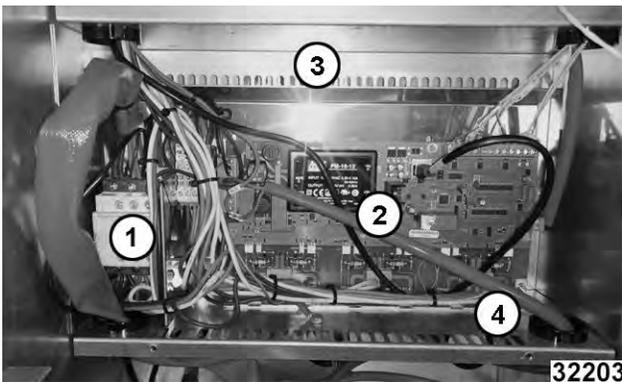

Fig. 12
- 2. Remove retention screw (3, Fig. 12) to disconnect enclosure from support brackets.
- 3. Pull enclosure forward to disconnect or test contactor (1, Fig. 12) and or relay board (2, Fig. 12).
- 4. Disconnect heat sink (4, Fig. 12) attached to radiator bar on outside of enclosure, by removing three screws and lock nuts.